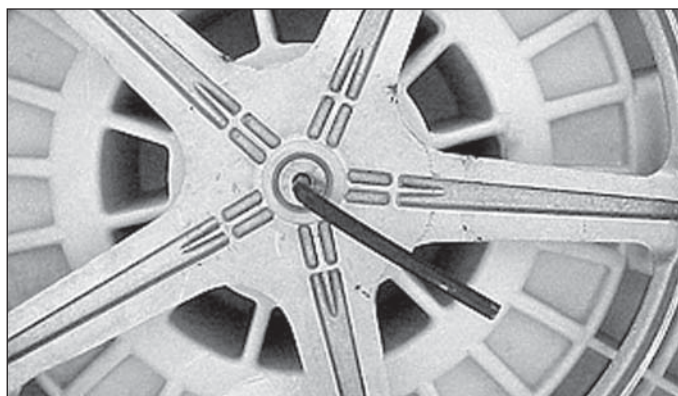

Figure 4-86.
3. Using a #6 mm allen wrench remove bolt in the center of pulley by holding the pulley and turning the bolt counter clockwise. (See Figure 4-86)